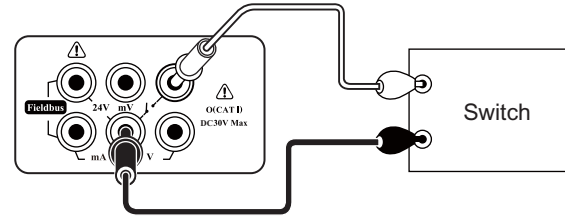

Fig. 3-7 Switch measurement
3.Connection: refer to Fig. 3-7.